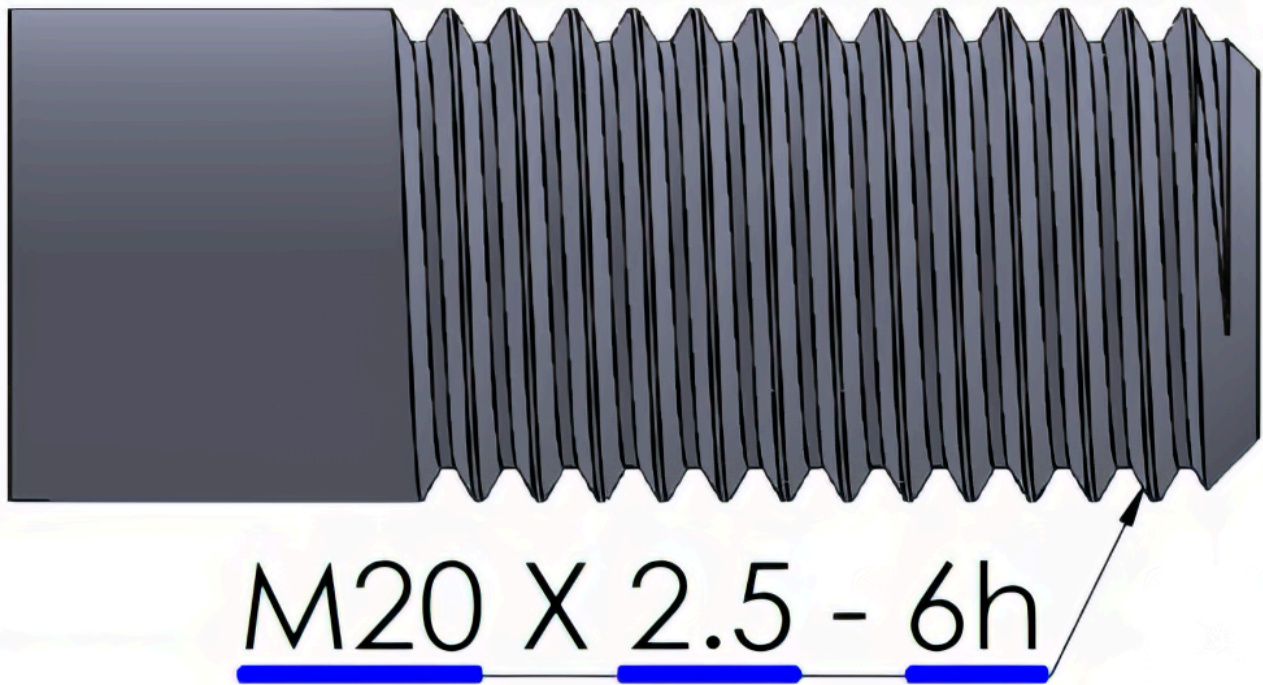

Figure 10-21. Metric thread specifications.
The details included in a metric series thread note will include metric series designation (M), major diameter, thread pitch, and thread tolerance class. See Figure 10-21.